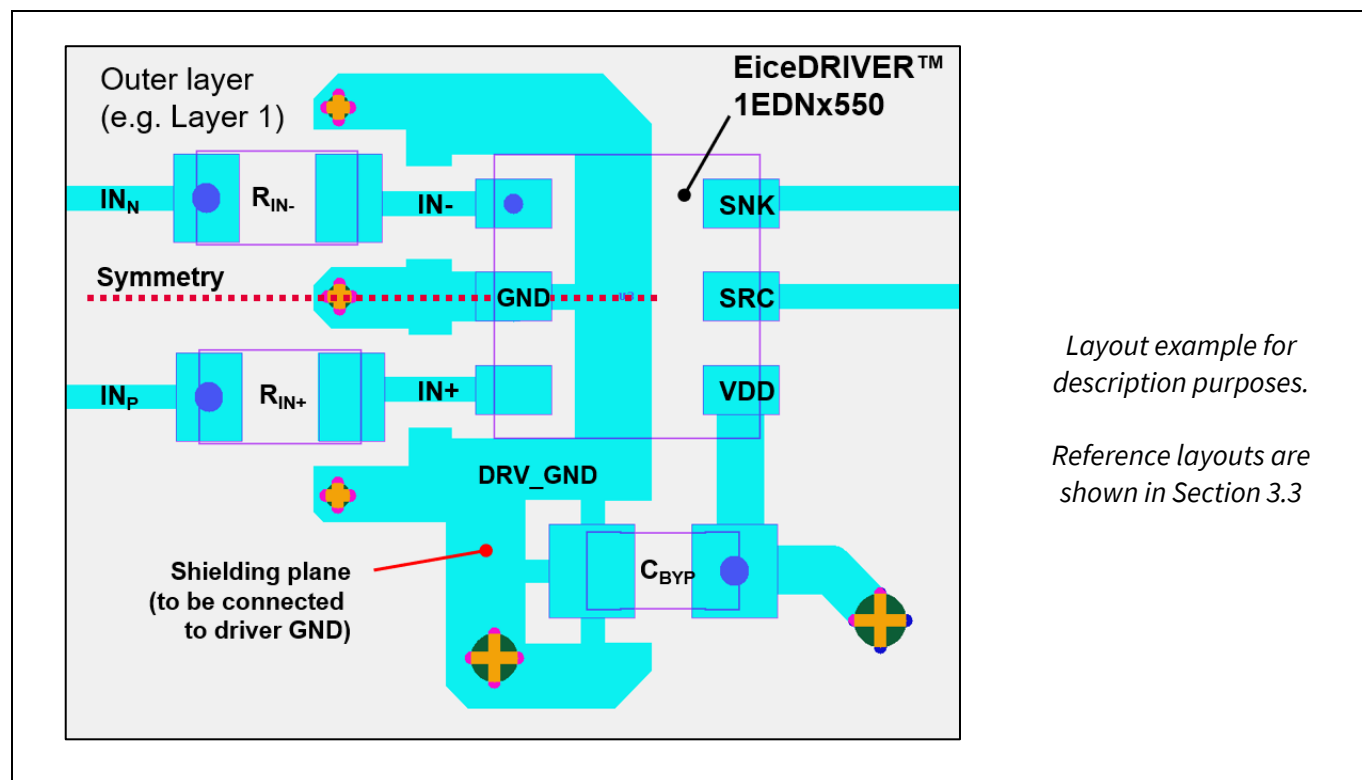

Figure 18 Example of symmetric IN+, IN- and reference plane on outer layer (e.g., Layer 1); component outlines are referred to the same layer
- 1) Symmetrical layout (i.e., $C_{P+}/C_{P-} = 1$, see Figure 18 and Figure 19 for layout symmetry criteria)
- 1) Symmetrical layout (i.e., $C_{P+}/C_{P-} = 1$, see example in Figure 18 and Figure 19).
Asymmetric layout IN+ and IN- nets are not symmetrical or the reference plane of IN+ and IN- (i.e., driver ground) is not symmetrical	Check layout and routing of IN+, IN- and surrounding nets. Shield IN+ and IN- nets with planes connected to driver ground. Always ensure symmetry of IN+, IN- and shielding plane(s). An example of symmetrical layout is shown in Figure 18 and Figure 19 , with IN+ and IN- also shielded by the driver ground of EiceDRIVER™ 1EDNx550.
Cross-coupling at input pins Noisy or switching nets are coupled to the input pins IN+ and IN- through PCB parasitic capacitances	Check layout and routing of IN+, IN- and surrounding nets. Shield IN+ and IN- nets with planes connected to driver ground. Always ensure symmetry of IN+, IN- and shielding plane(s). An example of symmetrical layout is shown in Figure 18 and Figure 19 , with IN+ and IN- also shielded by the driver ground of EiceDRIVER™ 1EDNx550.